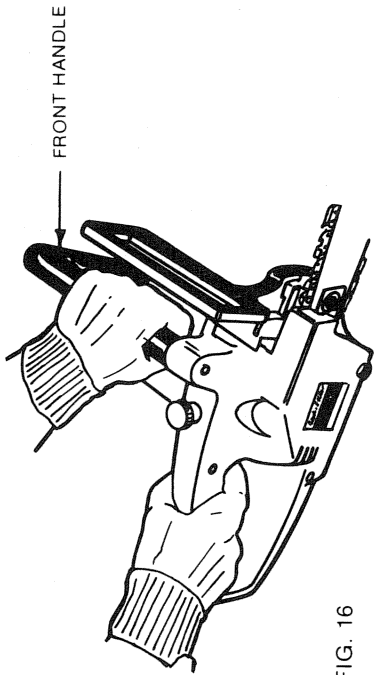

FIG. 16
**CAUTION:** Hand placement is important. ALWAYS grip front handle directly behind the handguard/chain brake lever (See FIG. 16).
4. With the left hand, hold the front handle (not the CHAIN BRAKE lever) firmly. (FIG. 16)